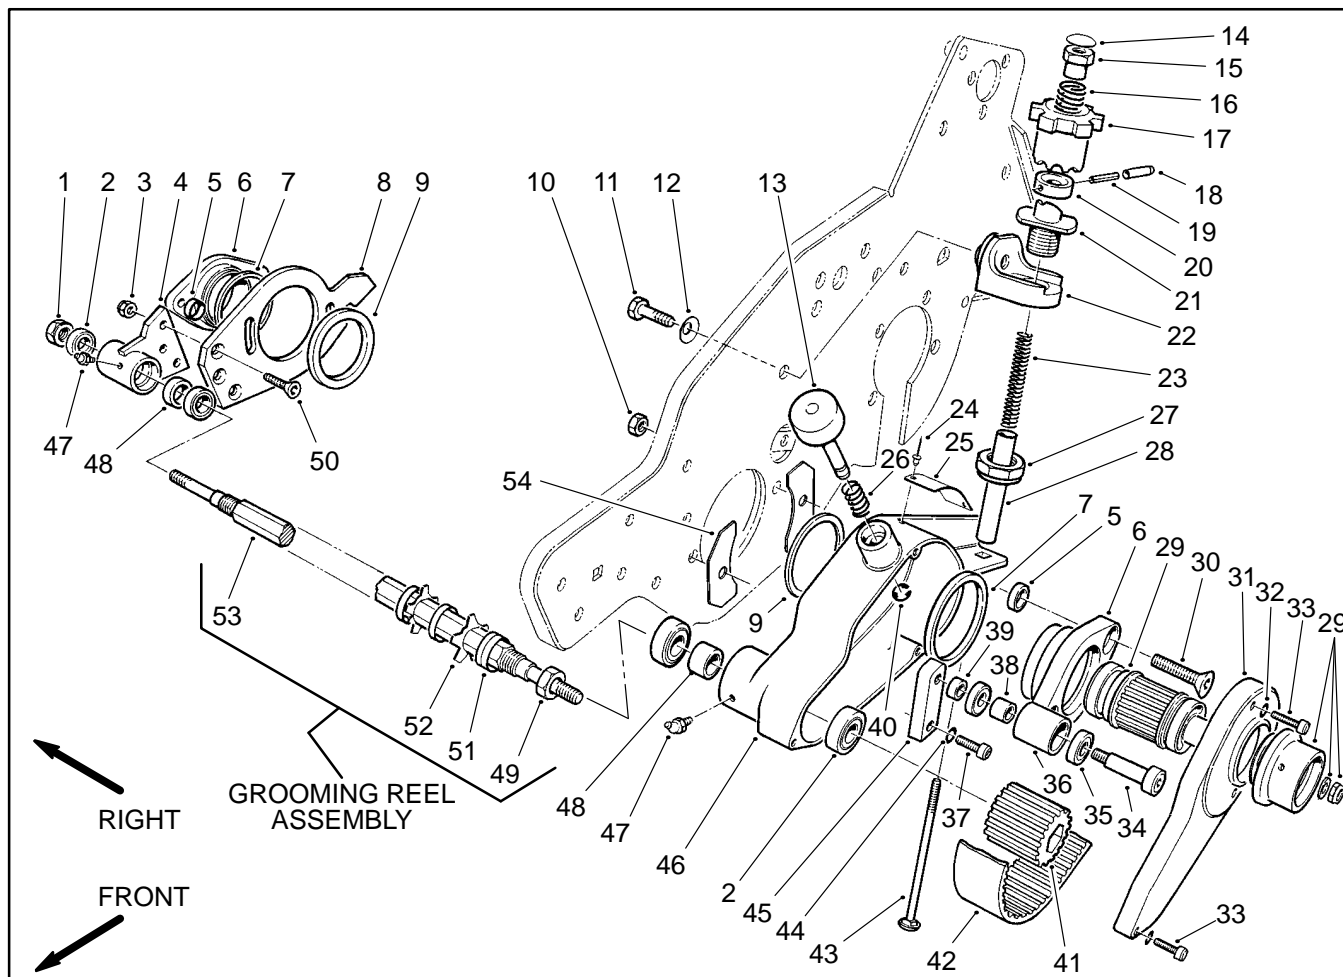

Figure 5
4. In the belt drive housing (46), disassemble the following parts (Fig. 5):
- A. Loosen socket head cap screw (37). Pivot idler pulley (36) away from the drive belt (42). Remove drive belt from the driven pulley (41).
5. From the right side of the mower, remove the following (Fig. 5):
- A. Remove lock nut (1) that secures the shaft (53) to the bearing housing (4).
- B. Remove three flat head socket screws (50) and lock nuts (3), then remove bearing housing from the side plate (8) and shaft.
- C. Pull grooming reel assembly from the belt drive housing (46).
2. Place grooming reel shaft (53) into the belt drive housing (46). Screw driven pulley (41) on the shaft. **Do not tighten** (Fig. 5).
3. From the right side of the mower, install the following (Fig. 5):
- A. Install bearing housing (4) onto the other end of the shaft (53) and side plate (8).
- B. Secure the bearing housing to the side plate with three flat head socket screws (50) and lock nuts (3).
- C. Secure lock nut (1) to the shaft.
4. While holding the lock nut (1), tighten driven pulley (42) to the shaft (53) (Fig. 5).